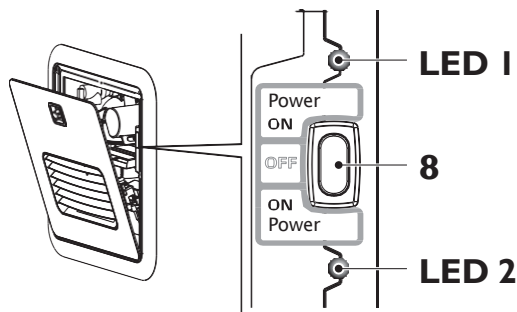

Fig. 8
2. To switch on the appliance, switch the POWER switch (Fig. 8 - 8) to one of the two “ON” positions.
- When the green power ON LED 1 (Fig. 8 - LED 1) is lit, the appliance is switched on.
- If the red error code LED 2 (Fig. 8 - LED 2) is lit / flashes, there is a fault or warning (refer to “APPENDIX A - Error Codes” on page 37).
3. Switch off the appliance at the POWER switch (Fig. 8).
- The green Power-ON LED 1 (Fig. 8) extinguishes.